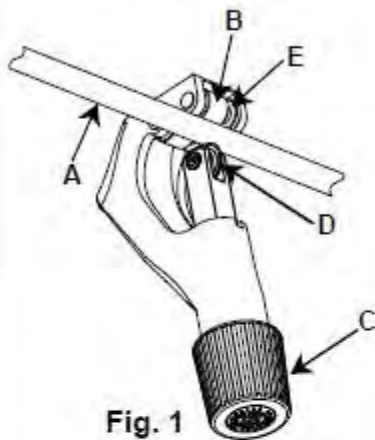

Fig. 1
To use cutter (Fig. 1) place the tubing (A) against the rollers (B). Turn Free Wheeling Handle (C) clockwise until the cutting wheel (D) rests firmly on the tubing. Turn the cutter completely around the tube and at the end of the revolution, turn wheel handle (C) a little more. Repeat these operations until the tube is cut completely through.